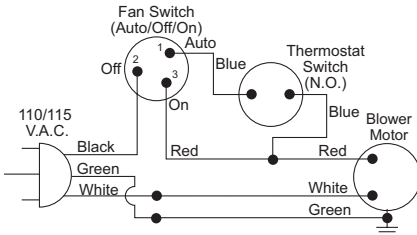

Figure 19 - Wiring Diagram For Fan Accessory Built-In Installation
4. A licensed electrician must follow the wiring diagram in Figure 19, page 15 to connect incoming electrical supply to fan kit wiring harness.